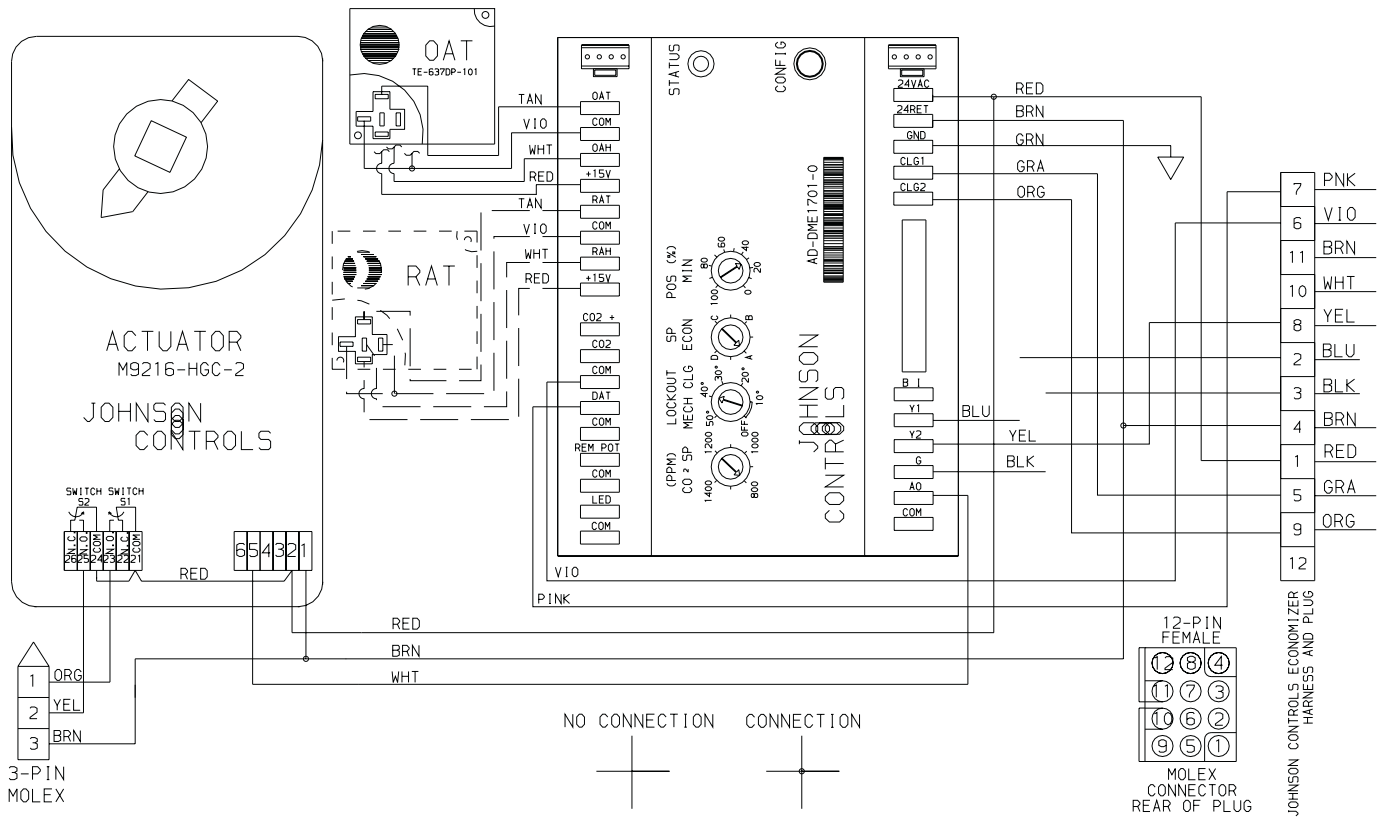
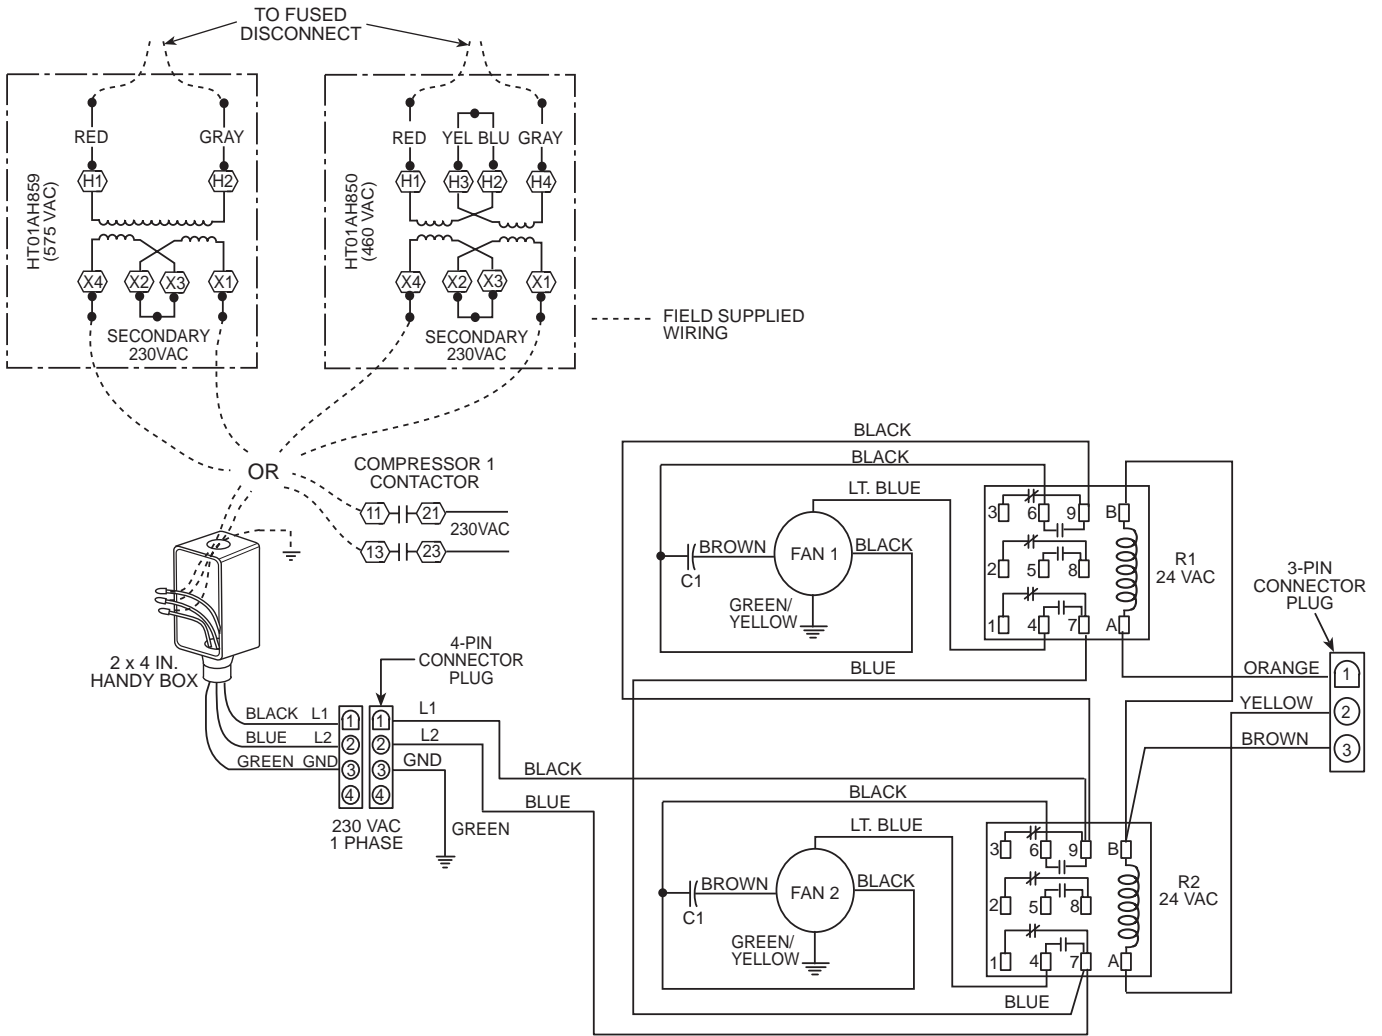

Fig. 32 — EconoMi\$er Wiring
Fig. 34 — Wiring Diagram for Power Exhaust System
8. Remove and discard the 12-pin jumper plug from the unit wiring harness located in the upper left corner and insert the EconoMi\$er plug into the unit wiring harness. Refer to wiring diagram Fig. 32 and 33. Also refer to Fig. 34 if installing an accessory power exhaust.